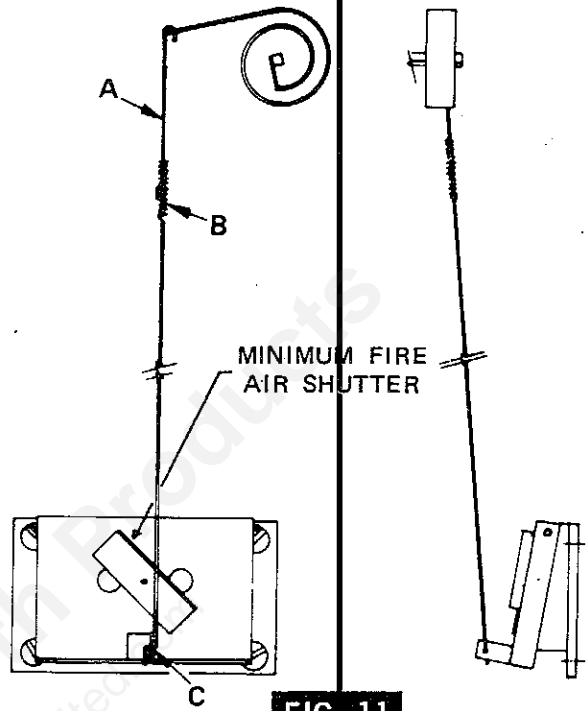

FIG 11
- A. To increase the amount of heat at a "HIGH" setting, adjust the wire linkage to increase the draft damper opening (Fig. 11).
The burning rate at the low setting can be further adjusted by opening or closing the minimum fire air shutter (Fig. 11) on the draft control door.